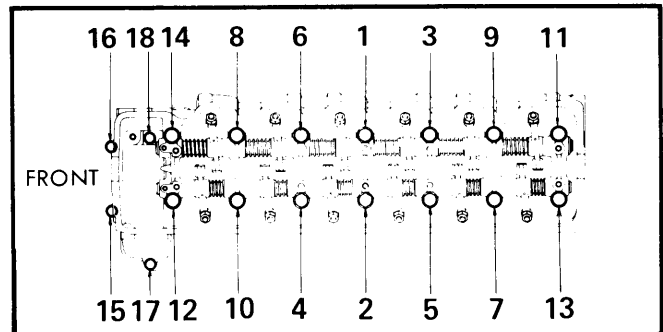

Fig. 1 Cylinder Head Bolt Tightening Sequence
2) Remove chain tensioner, then remove timing gear bolt noting that bolt has *LEFT* hand threads. Loosen head/rocker shaft bolts a little at a time in reverse of tightening sequence shown in Fig. 1. Lift off rocker arm assembly, then lift head straight up from block.
Installation — Clean all gasket surfaces and apply sealer to cylinder head, around oil holes in the block, and in area of timing chain cover and block. Install new gasket. Clean all foreign matter from bolt holes and place cylinder head on block. Make sure valve adjusting screws have been loosened and install rocker shaft assembly. Install bolts and tighten in several steps according to the sequence in Fig. 1. Align timing marks and install remaining components in reverse of removal procedure.
Check arm-to-shaft clearance by twisting on shaft. Little or no movement should be felt. If movement is felt, disassemble and inspect. Bushings may be replaced and finished to give standard clearance of .0005-.0013" (.012-.033 mm) using pin hole grinder. Assemble rocker arm assembly, starting with rocker support number 1. Install on head and tighten bolts in sequence shown in Fig. 1.